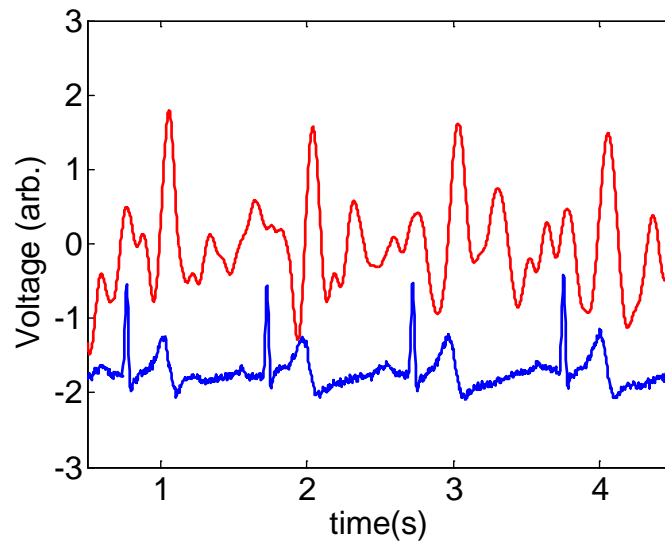

Figure 1: Comparison of EKG (blue) and BCG (red) signal. Note the regular correlation between the second hump of the EKG signal and the impulse from the BCG.
1. A good final simultaneous EKG and BCG trace, similar to what is shown in Figure 1. If your BCG trace is clear, you can just submit that without the EKG. Likewise, if you have difficulty getting a clean BCG, you could show the results of the “tap test”.